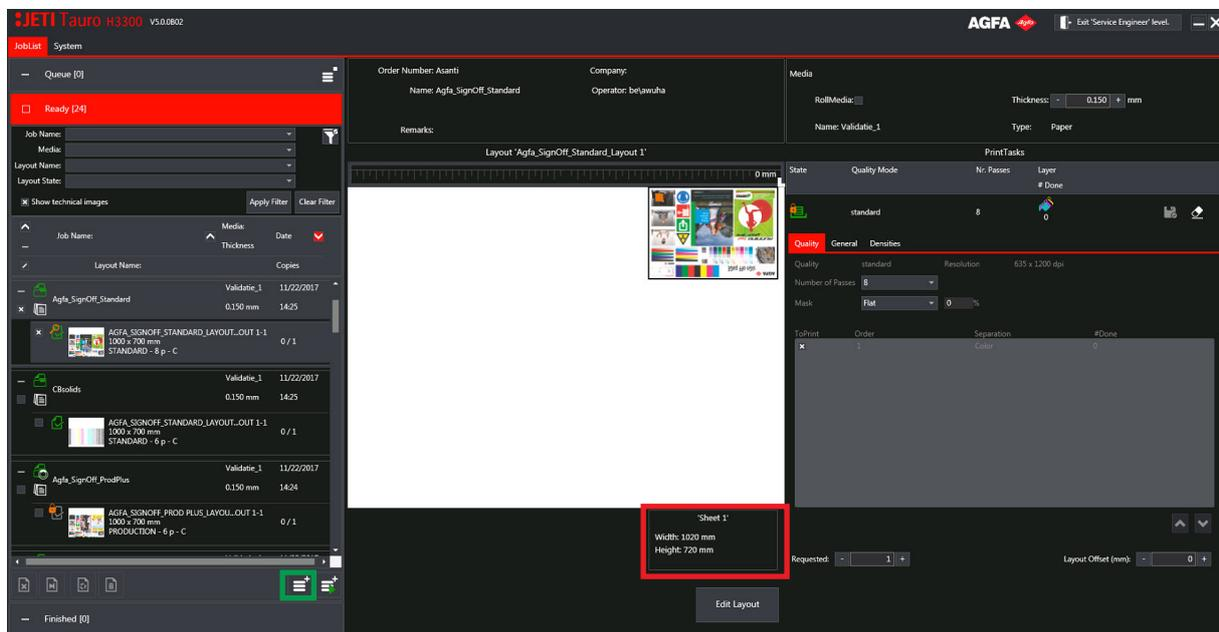

Fig.5-18: Media Sheet Size - Manual Mode
- Step 6: Check the media sheet size (outlined in red in Fig. 5-18) in the layout pane.
- Step 7: Click on the icon (outlined in green in Fig. 5-18) to add the selected layout to the Queue.